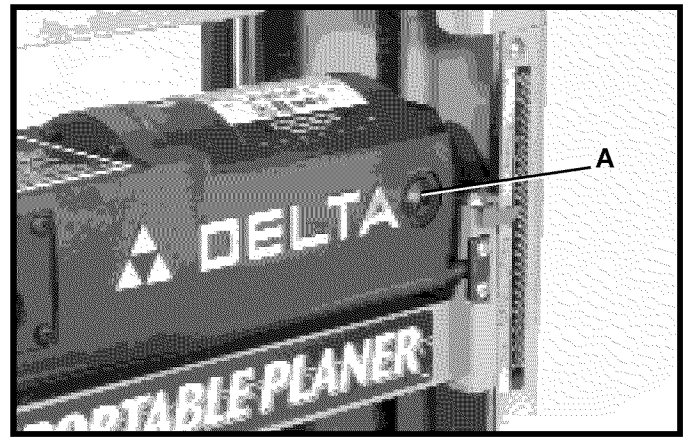
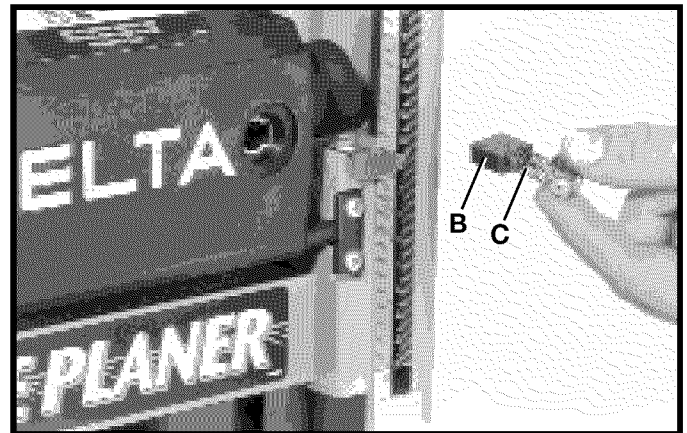

Fig. 26
Fig. 27
The brush holders, one of which is shown at (A) Fig. 26, are located on the motor housing opposite each other. Fig. 27, illustrates one of the brushes removed for inspection. When the carbon (B) on either brush is worn to $3/16$ in length or if either spring (C) or shunt wire is burned or damaged in any way, replace both brushes. If the brushes are found serviceable after removing, re-install them in the same position as removed.